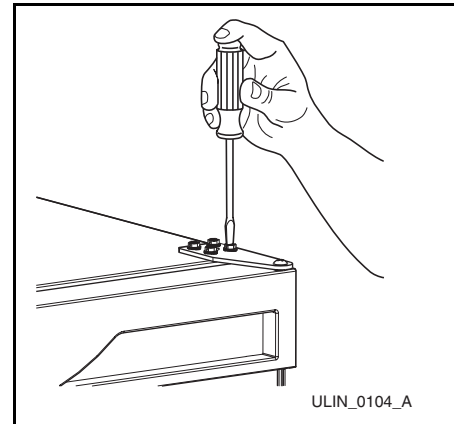

Figure 11
- Remove top hinge from cabinet (four screws) (**Figure 11**). Hold door to keep it from falling.